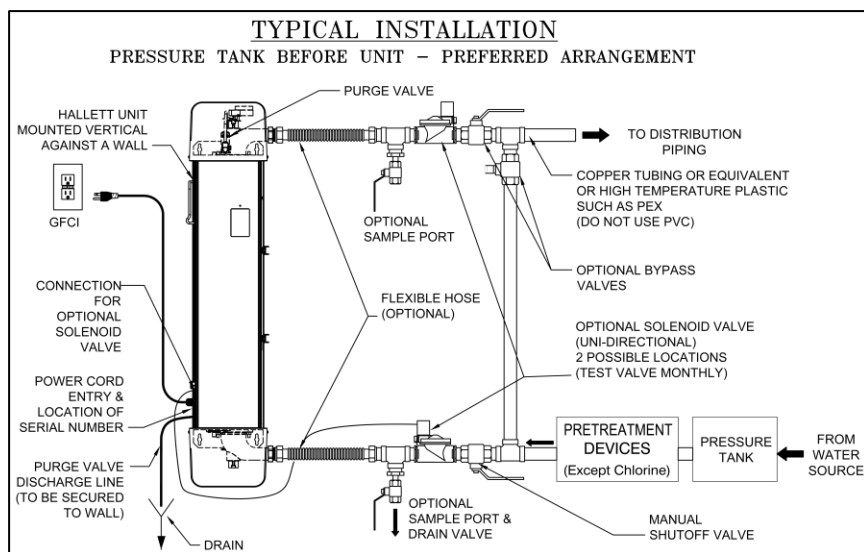

Figure 4-2
These fittings, pipe insulation, and any piping compatible with the plumbing should be on hand before you begin installation. See Figure 4.2 and make a list of all necessary components including solder, paste and thread sealant. Bypass piping and valves that isolate the unit are optional, (but recommended) as is a drain valve for draining the unit.
1. See Figure 4.2 on how to arrange the piping and optional devices such as the solenoid valve, bypass line, sample ports and drain. If the pressure tank is downstream of the unit, a purge valve relocation kit is required.